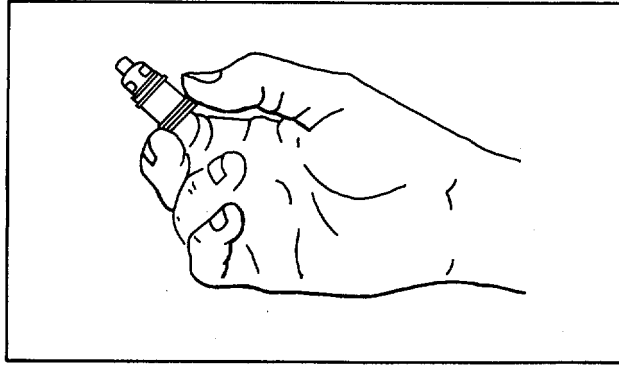

Figure 7.
1. Prior to installation, inspect O-rings for damage (refer to Fig. 7). Apply a light coat of oil.